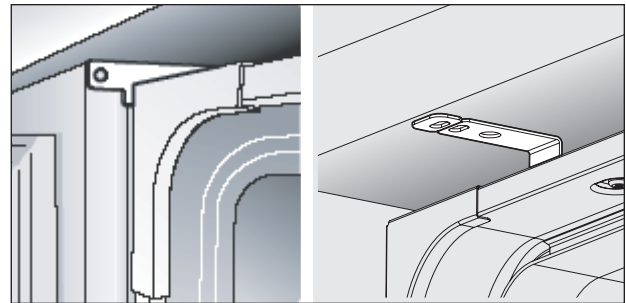

Figure 2-10. Top Mount Cabinet Clips
12. Screw mounting brackets firmly to cabinet using screws provided in literature packet. (See Figure 2-10)